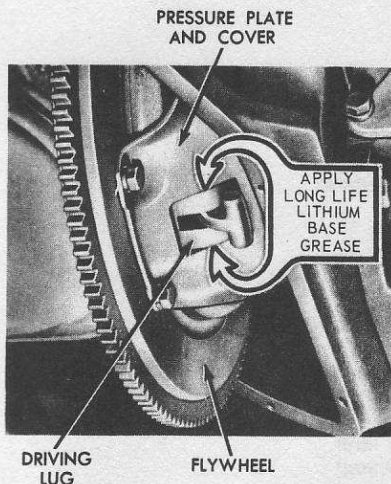

Fig. 5.9 Pressure plate lubrication points (Sec. 5)
- 3 Lubricate the pressure plate, with grease, between the driving lugs and the edges of the pressure plate openings as shown in Fig. 5.9. Depress the pressure plate fingers fully, apply the grease, and then move the fingers up and down until the grease is worked in.